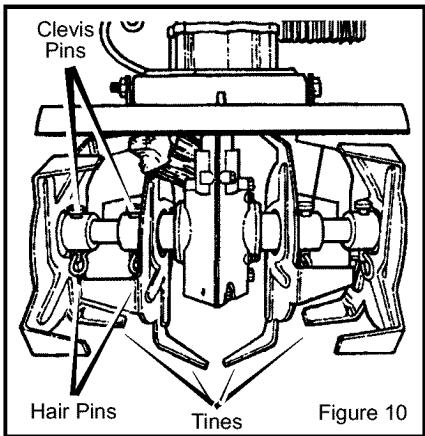

Figure 10
3. While wearing gloves, remove the hairpins and clevis pins that secure the tine assemblies to the shaft (see Figure 10). Remove the tines from one side of the unit.
4. Mount the outside tine on the tine shaft and fasten with the clevis pin and hairpin (see Figure 10).